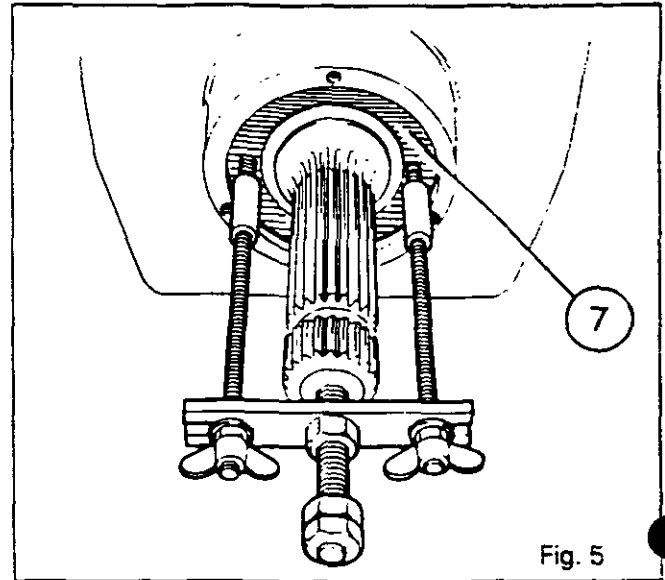

Fig. 5
**Note: On the outer face of pin (16) held by plate (57), the end of the hole is blanked by a rivet (56).**
25. Remove the guards (8) and (14) (depending on type).
26. using tool MF 460 (section F) fitted with a sleeve of suitable length, remove the retainer ring (46).
27. Remove the circlip (71).
28. Extract the seal holder (7) with the sealing bush (10) using the locally manufactured tool (section F) (see Fig. 5).